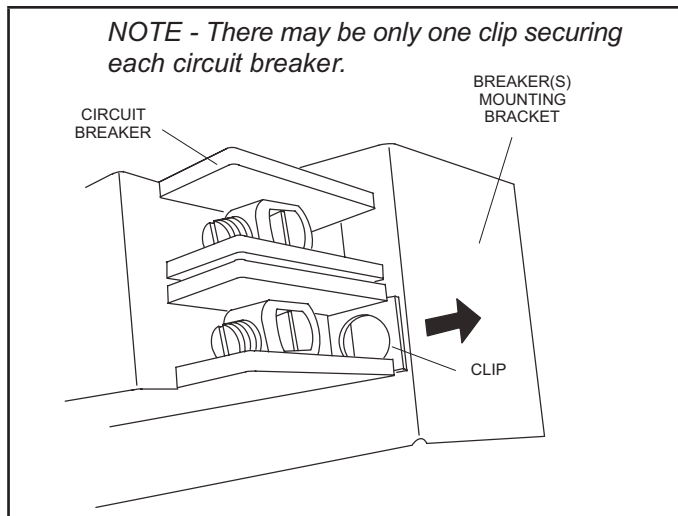

FIGURE 7. Circuit Breaker Clip
- 3 - Set unit so that it is sloped toward the upflow drain pan end of the unit and level from front to back of unit (see figure 7).